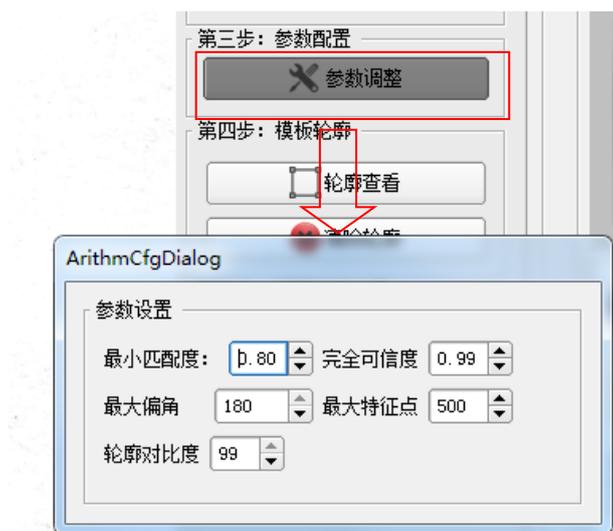

Figure 26 Template matching parameters
1) click the 'parameters' button, the interface of template parameters setting will pop on, as shown in figure 26; the interface parameters are as follows: